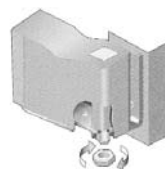

Fig. 5
- b) Remove the locknut from the bottom hinge bracket (see fig. 5).